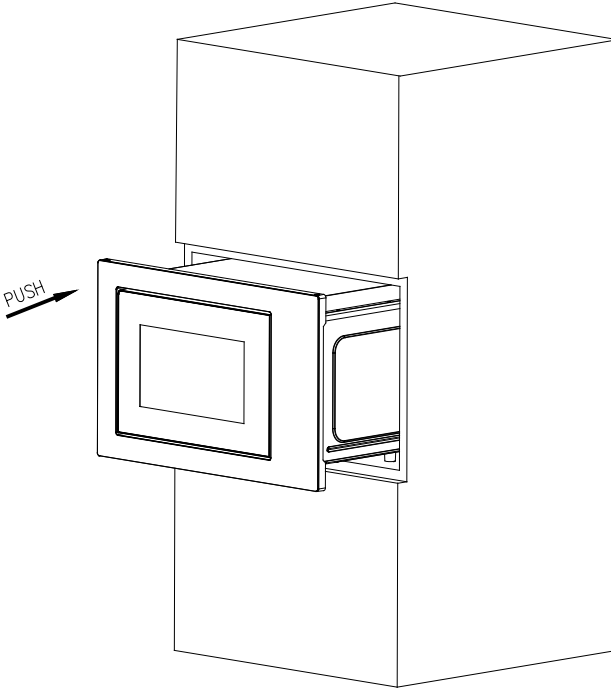

Fig. 1
a) Put the microwave oven into built-in cabinet and push it forward to the end (Figure 1).